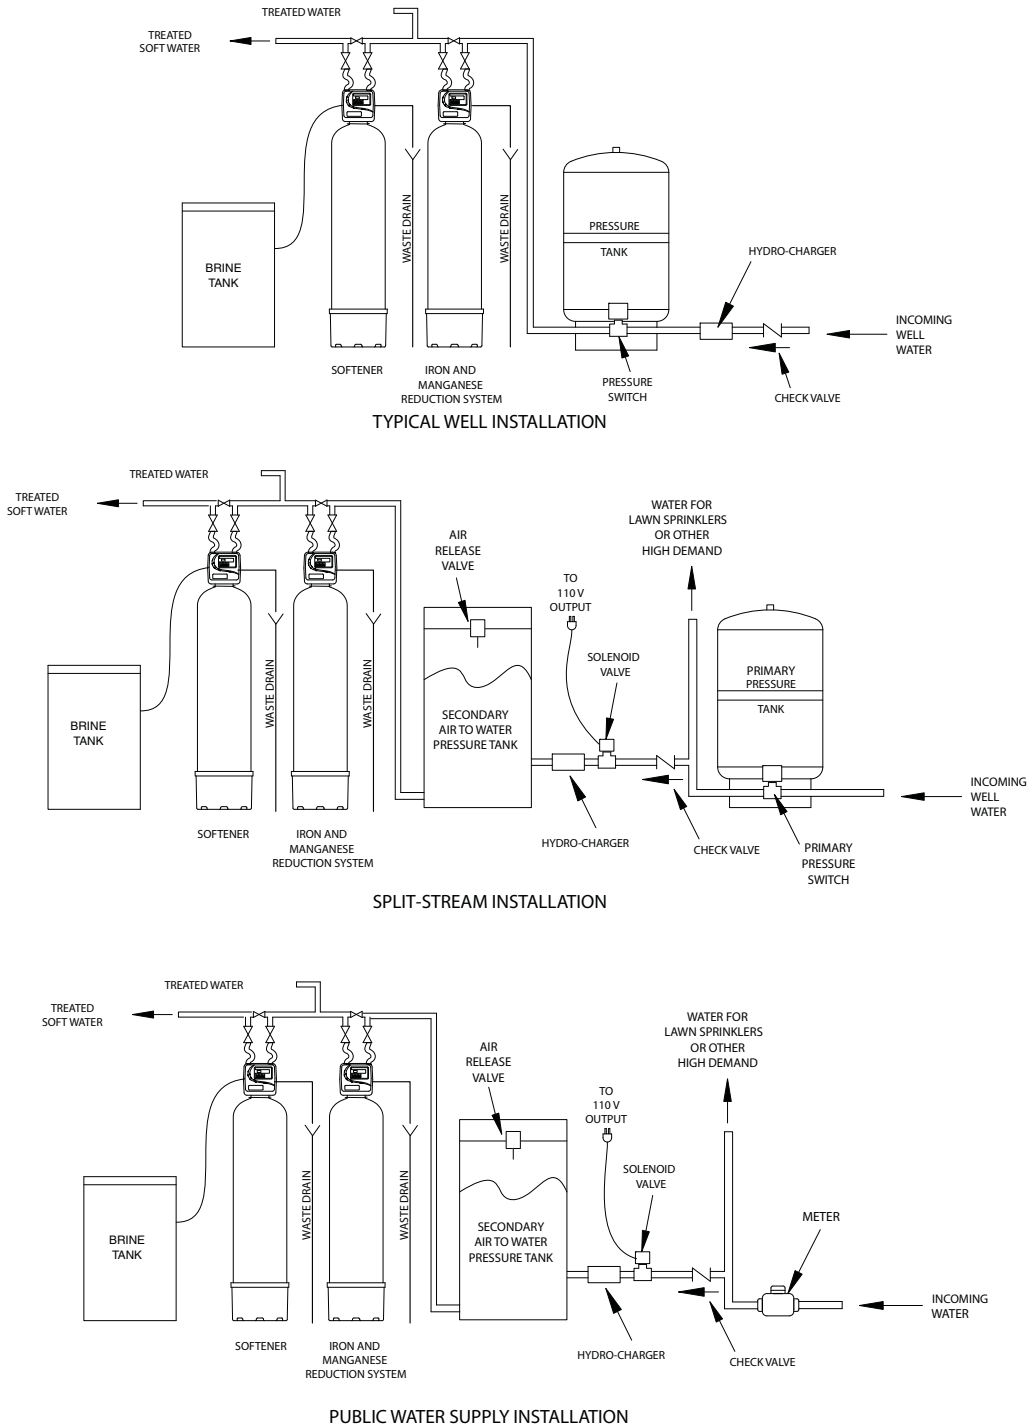
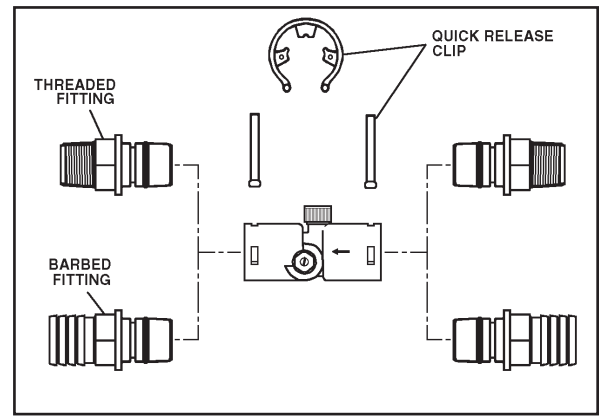

Figure 1
Figure 2: Hydro-Charger Installation
- 3) Locate in correct relationship to other water conditioning equipment (Figure 1, page 3-1).
Cut main supply line as required to fit hydro-charger in plumbing between well pump and pressure tank (hydro-charger may be installed in a vertical or horizontal position). The hydro-charger has been supplied with both 1" threaded and 1" barbed (insert) fittings to allow for installation with various types of piping materials. When using the threaded nipples, use thread tape only. When using barbed (insert) fittings, appropriate pipe clamps must be used. Once installed the quick release nipples allow the hydro-charger to be rotated, so the air draw adjustment screw is accessible for adjustment by a small bladed screwdriver. Allow at least 10 inches of straight run of 1" pipe on both INLET and OUTLET side of the hydro-charger. Refer to Figure 2 for correct assembly. The quick release nipples also act as a union to facilitate the hydro-charger removal, inspection and cleaning as needed. With an installation on PVC pipe and copper tubing it may require the addition of a plumbing union to aid in removal from the plumbing due to the rigidity of that type of material. Make certain the directional arrows on the hydro-charger point towards the pressure tank and the pressure control switch is located on the pressure tank side of hydro-charger as in Figure 1. Rapid cycling of pump may occur if the pressure control switch is located on well side. If a check valve is located between hydro-charger and pressure tank, it may prevent the hydro-charger from performing properly. Relocate to well side of hydro-charger.
- **If installation is to be split streamed prior to tank or is it a public water supply (see figure 1), or refer to special instructions on page 3-11.**